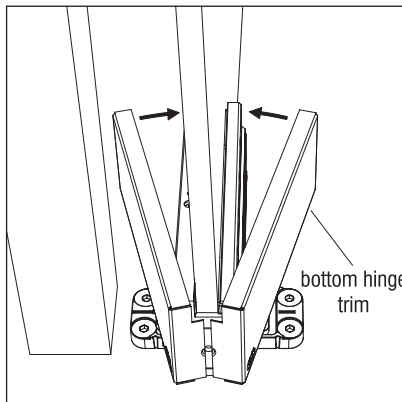

Figure 21
13. Attach trim to bottom hinge and base plate (Figure 21 & 22).